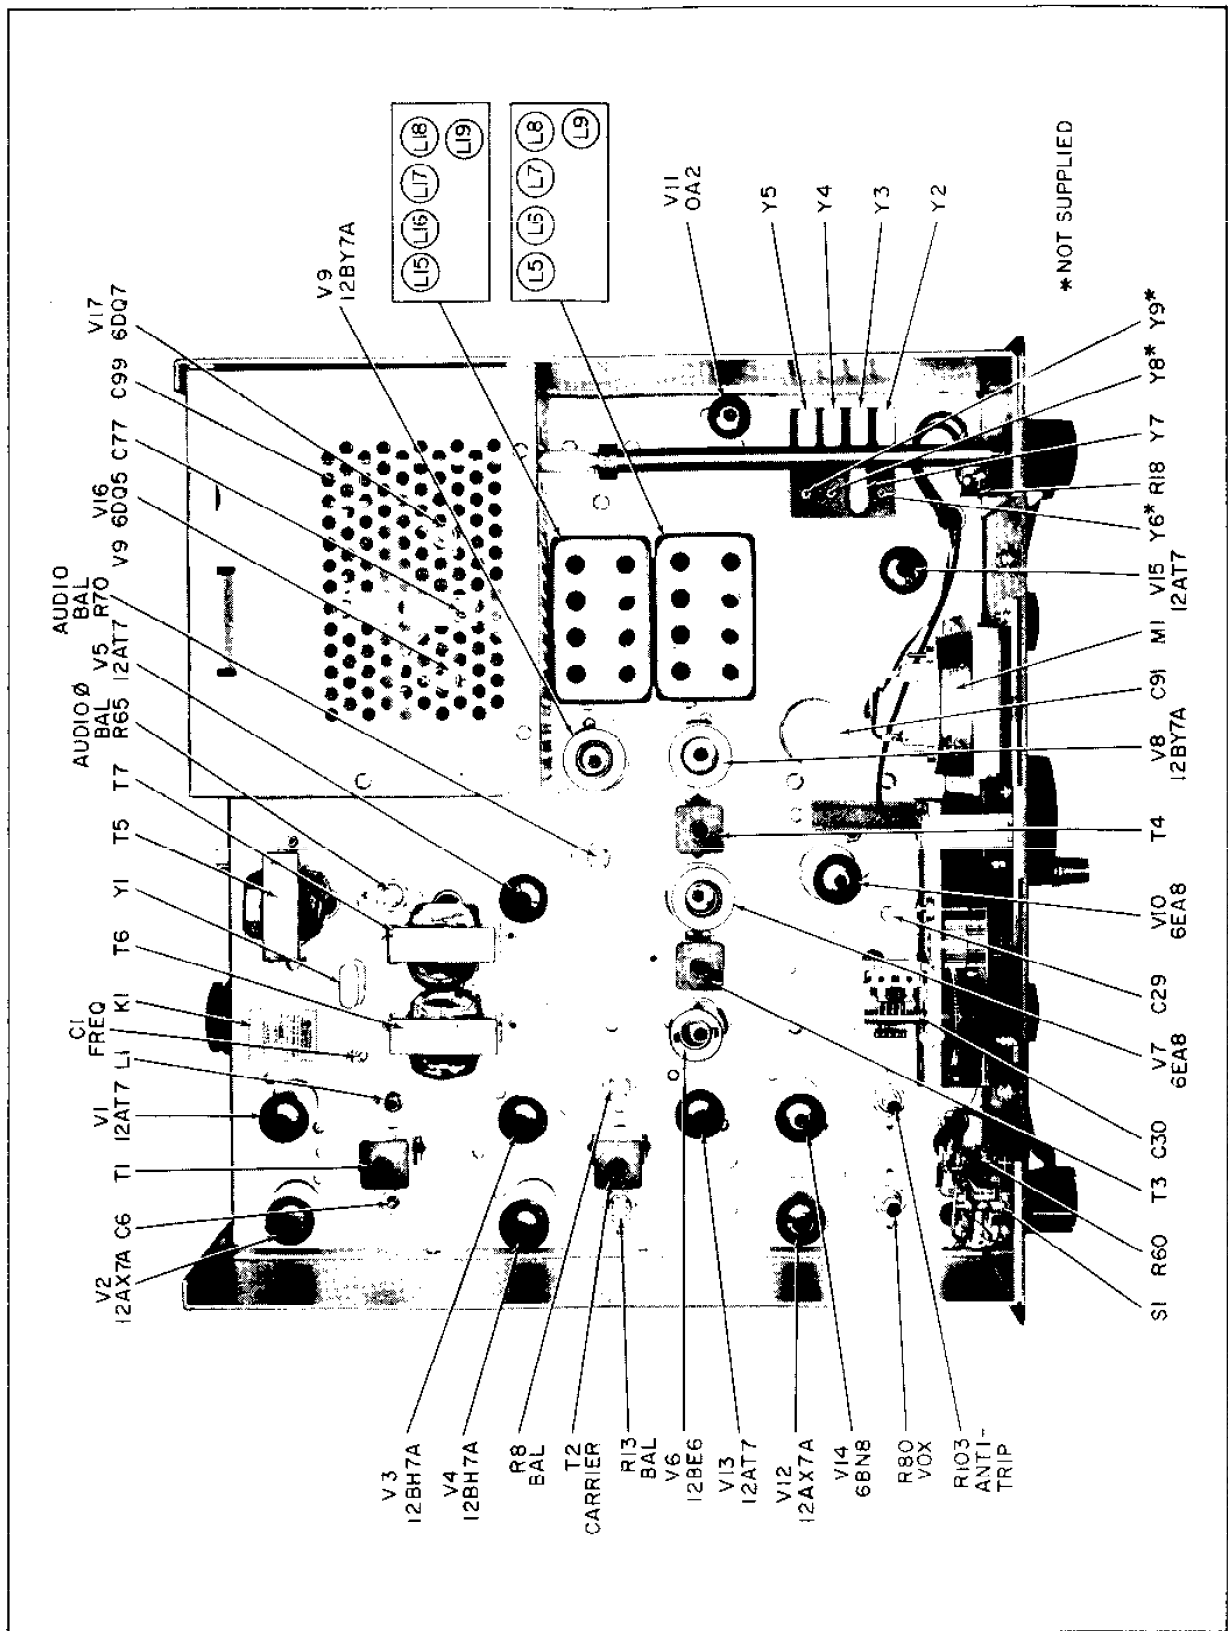
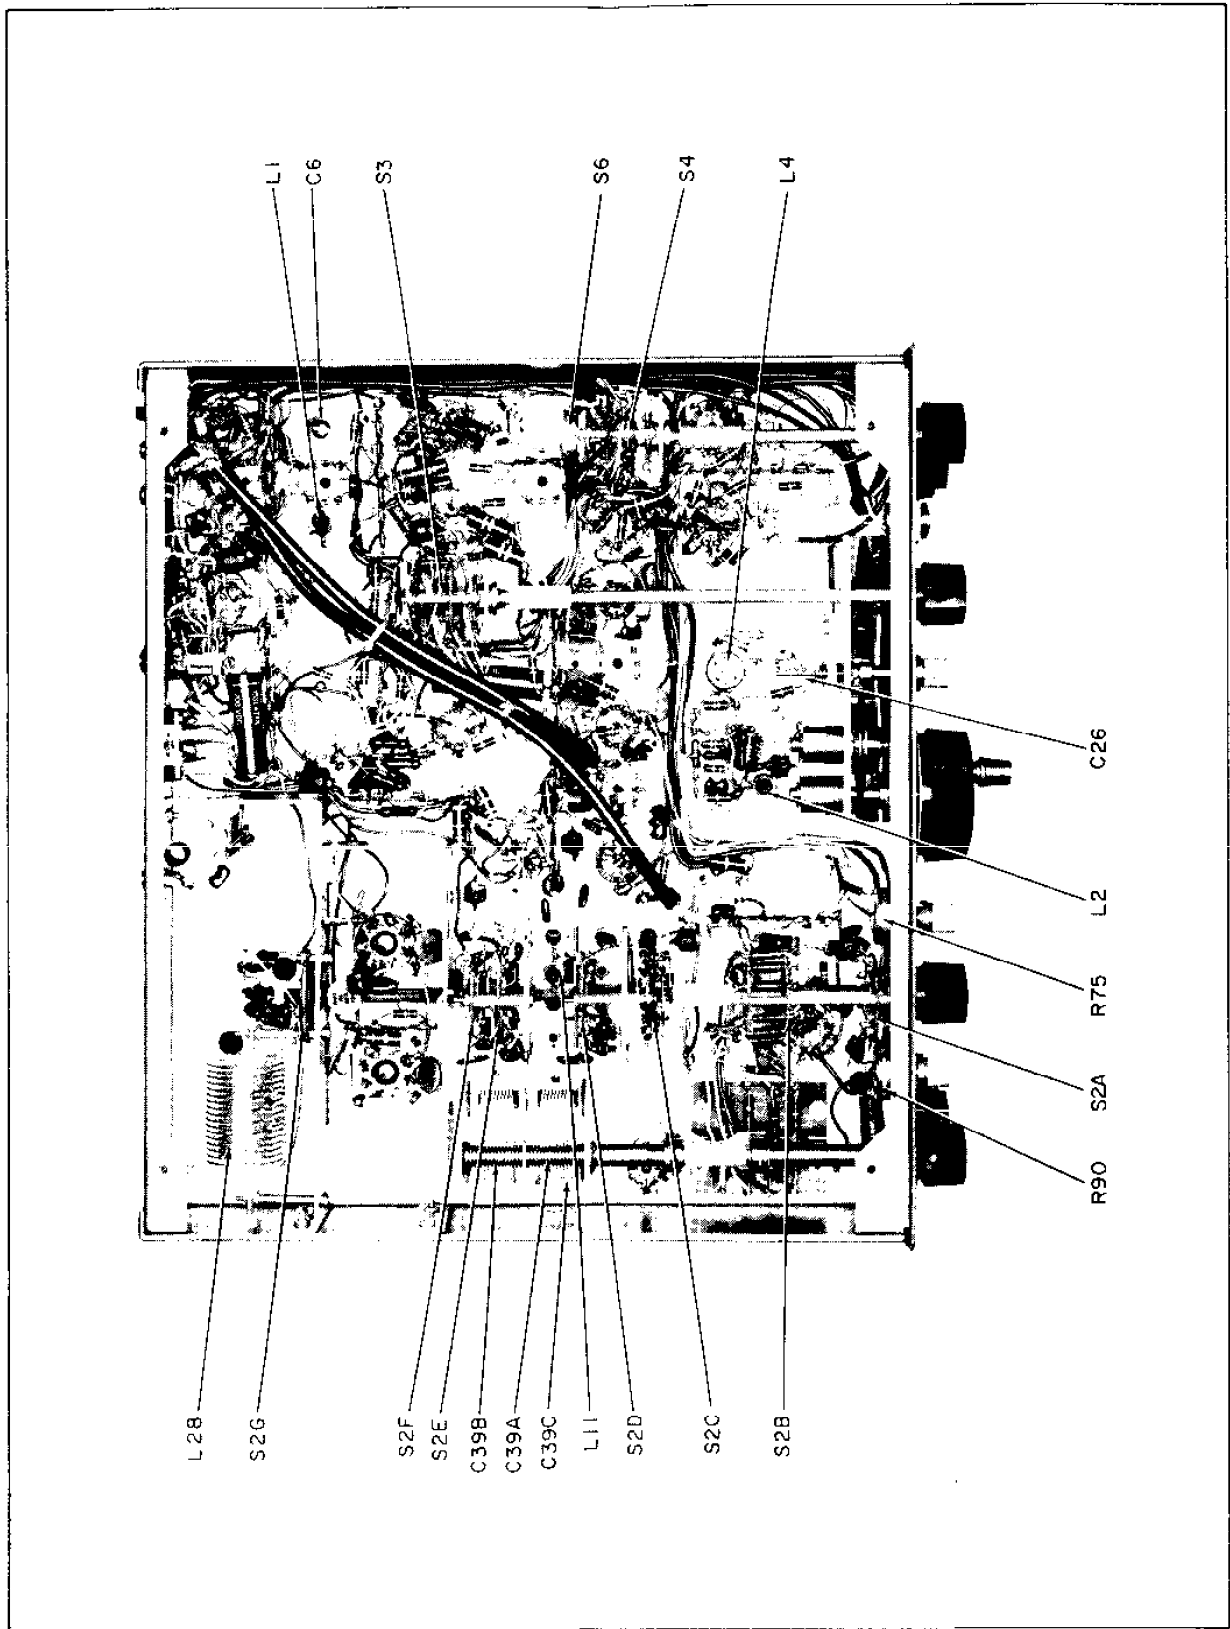

Figure 14. Top Chassis View Showing Component Locations.
Figure 15. Bottom Chassis View, Showing Components
13. Carefully adjust warping trimmer C1 in the HT-44 for zero beat. This trimmer is located near the top, left, rear corner of the chassis. (See figure 14.)
Do not make any adjustments unless the operation of this transmitter is fully understood and adequate test equipment is available. Refer to figures 14 and 15, the top and bottom views of the transmitter, for the locations of all adjustments.
3. 10-Meter Alignment. - Tune the Signal Generator to 28.0 MC. Set the FINAL TUNING control to the low end of the 10-meter segment (approximately 8 on the inner scale) and the DRIVER TUNING control also to the low end of the 10-meter segment (approximately 8 on the inner scale). Increase the signal generator output level until a small indication is noted on the HT-44 RF output meter. Tune the FINAL TUNING control for maximum output indication. Adjust the cores of coils L5 and L15 (see figure 14 for location) for maximum output, reducing the signal generator output level as required to keep the meter reading at half-scale or less. Set the signal generator to 29.7 MC. Set the FINAL TUNING control to the high end of the 10-meter segment (approximately 9-1/2 on the inner scale) and set the DRIVER TUNING control to the high end of the 10-meter segment (approximately 9-1/2 on the inner scale). Adjust trimmer capacitor (C39C) located on the side of C39A (see figure 15) for maximum output while slightly rocking the DRIVER TUNING control. Return the signal generator to 28.0 MC and repeat the above alignment until tracking is accomplished. (NOTE: Trimmer C39C should not be readjusted on the other bands.)
4. 15-Meter Alignment. - Tune the signal generator to 21.0 MC and set the FINAL TUNING control to the low end of the 15-meter segment (approximately 7-1/2 on inner scale). Set the DRIVER TUNING to the low end of the 15-meter segment (approximately 7 on the inner scale). Increase the signal generator output level until a small indication is noted on the RF output meter and adjust the FINAL TUNING control for maximum output, reducing the signal generator output level as required to keep the meter at half-scale or less. Adjust the cores of coils L6 and L16 (see figure 14 for location) for maximum output, reducing the signal generator output as required to keep the meter at half-scale or less.
7. 6.5-MC Trap Adjustment. - While on the 40-meter band, set the signal generator to 7.0 MC and adjust the FINAL TUNING and DRIVER TUNING controls for maximum output. Without changing the FINAL TUNING or DRIVER TUNING, reset the signal generator to 6.5 MC and increase the signal generator output level until a small indication is noted on the RF output meter. Adjust the 6.5-MC trap core, L11 (see figure 15 for location) for minimum output, increasing the signal generator output as required. A slight readjustment of L8 may be required after this adjustment.
Proceed as follows: Set the CAL. ADJ. trimmer to mid-range (dot up). Set the OPERATION switch to CAL. Set the BAND SELECTOR to 3.5 MC (80-meter). Tune the receiver to 3.5 MC on the 100-KC marker signal (BFO off). Set the HT-44 TUNING CONTROL (dial) to the red 500 (3.5 MC). Carefully adjust trimmer C29 for zero beat (see figure 14 for location).
If the dial error progressively increases in the same direction with the high-frequency end running out more than 3000 CPS, at this end, both L4 and C29 should be adjusted. Proceed as follows: Set the TUNING dial to 4.0 MC (red 1000) and the Receiver to 4.0 MC. Adjust the slug of L4 (see figure 15 for location) to zero beat. Set the TUNING dial to 3.5 MC (red 500), the receiver to 3.5 MC, and adjust C29 for zero beat. Repeat the adjustments at 4.0 MC and 3.5 MC until both points are on frequency.
Remove V15 (12AT7) from its socket to disable the heterodyne oscillator signal. Connect the probe of the RF voltmeter to the grid of the Second Mixer (pin 2 of V8). Set the FUNCTION switch to CW and the OPERATION switch to MOX. Set the BAND SELECTOR to any 10-meter segment. Set the TUNING control dial to 250 and advance the RF LEVEL control until a small indication is noted on the RF voltmeter. Adjust the core of the VFO output coil (L2, See figure 15) for maximum reading. Set the TUNING control to 450 on the dial. Advance the RF LEVEL control until approximately 0.5 volt RMS is indicated on the RF voltmeter (HP 410 B or equal). Adjust top and bottom cores of IF transformers T3 and T4 for maximum voltmeter indication, keeping the level below 1 volt to prevent overload and false settings. After the transformers have been adjusted as described, increase the RF LEVEL control until 1 volt is indicated on the voltmeter. Tune the VFO (TUNING) across its range (0 to 500) while watching the voltmeter. The voltmeter should read between 0.8 and 1.0 volt over the entire range of the dial (0 to 500). After completion of this alignment, be certain to replace V15 (12AT7) in its socket.
Adjust the RF LEVEL control for about 60 volts RMS output (60 on the HT-44 RF output meter). Carefully tune the FINAL TUNING control and observe the plate current dip and the output voltage peak. If both occur at the same setting, the amplifier is neutralized. If both do not occur together, adjust the neutralizing capacitor, C77 (see figure 14), in small increments (1/4 to 1/2 turn) until neutralization is accomplished.
When the HT-44 is used as an independent transmitter/exciter, there is normally no need for adjustment of the carrier frequency trimmer C1 (see figure 14 for location). However, when the HT-44 is to be used in conjunction with an SX-117 receiver as a transceiver, the carrier frequency trimmer C1 must be set correctly. For this procedure, see Section VII, TRANSCEIVE (SLAVE) OPERATION.